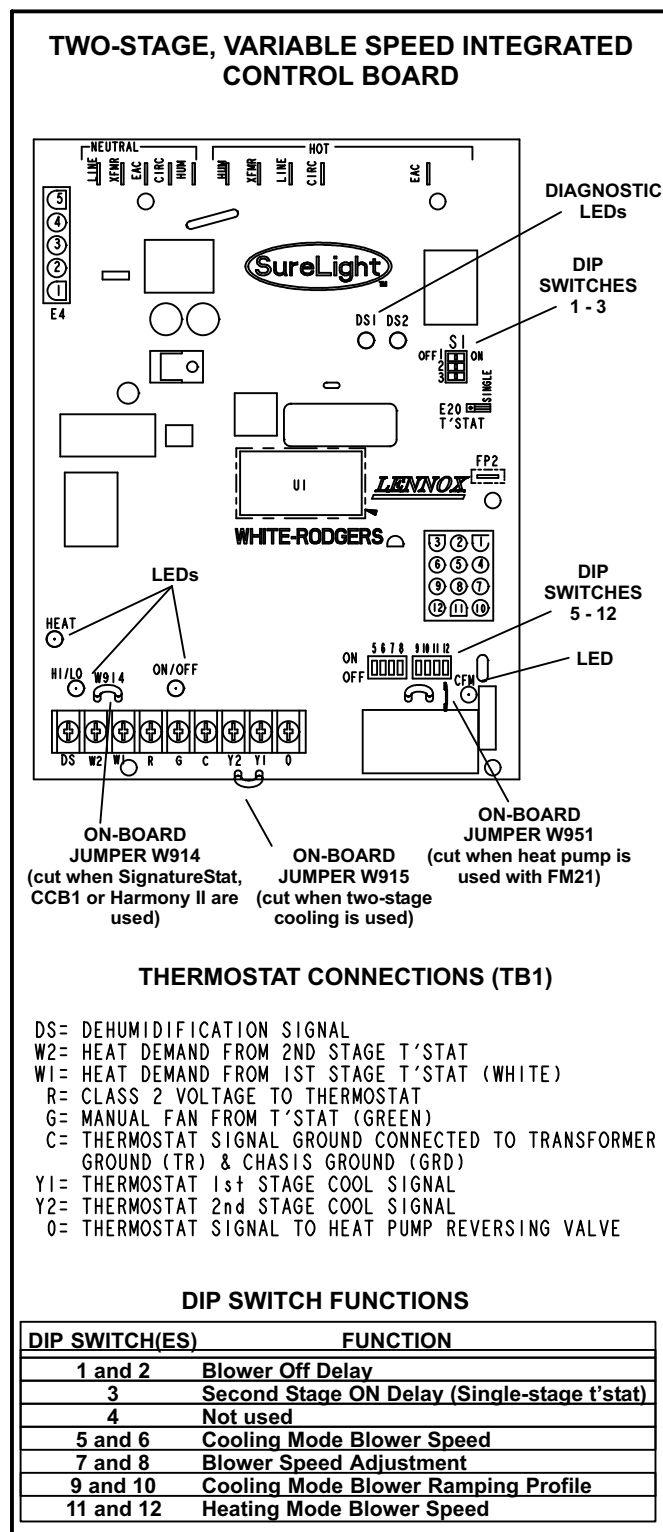

FIGURE 4
G61MPV units are equipped with the Lennox two-stage, variable speed integrated SureLight® control. The system consists of a ignition / blower control (figure 4 with control terminal designations in tables 1 through 4) and ignitor (figure 12). The control and ignitor work in combination to ensure furnace ignition and ignitor durability. The SureLight integrated board controls all major furnace operations. The control features two LED lights, (DS1 and DS2) for troubleshooting and four LED lights (DS3, DS6, DS7 and DS8) to show furnace status. The control also has two accessory terminals rated at (1) one amp each. See table 5 for status code and table 6 for troubleshooting diagnostic codes.
The control can be utilized in two modes: SINGLE-STAGE thermostat or TWO-STAGE thermostat. The thermostat selection jumper E20, located just below dip switches 1 through 3 (figure 4), must be positioned for the particular application. The jumper is factory set on "TWO" for use with a two-stage thermostat with two stage heat. Re-position jumper to "SINGLE" for use with a single stage thermostat with two stage heat.
Diagnostic LEDs are labeled DS1 and DS2. See figure 4 for location of diagnostic LEDs.